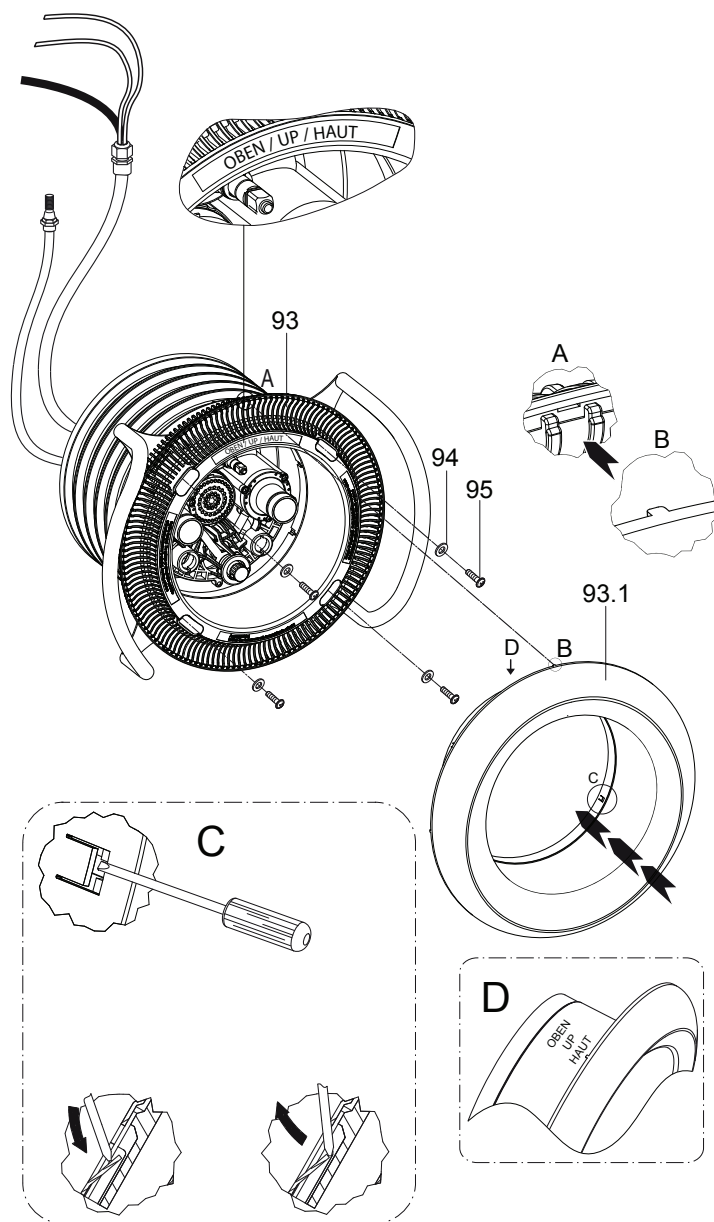

Figure 15
7. Align the complete nozzle housing to the main housing and fasten the ten (10) pre-assembled tapping screws. All screws should be **HAND TIGHT**. **DO NOT** use drills or pneumatic tools. **DO NOT** over tighten!
8. Place the suction housing (part# 93) against the clamping ring (part #28) and fasten with four (4) 8.4mm washers (part# 94) and four (4) M8 x 20 machine screws (part# 95). All screws should be **HAND TIGHT**. **DO NOT** use drills or pneumatic tools. **DO NOT** over tighten! Make sure the UP label is in the correct position (See Figure 15)
9. Align the stainless steel cover (part# 93.1) with its mounting tabs to the existing notches of the suction housing (part# 93). Observe the UP marking on the stainless steel cover. To fasten the cover use a screwdriver to bend the two (2) offset tabs outwards towards the suction housing notches. (See Figure 15)